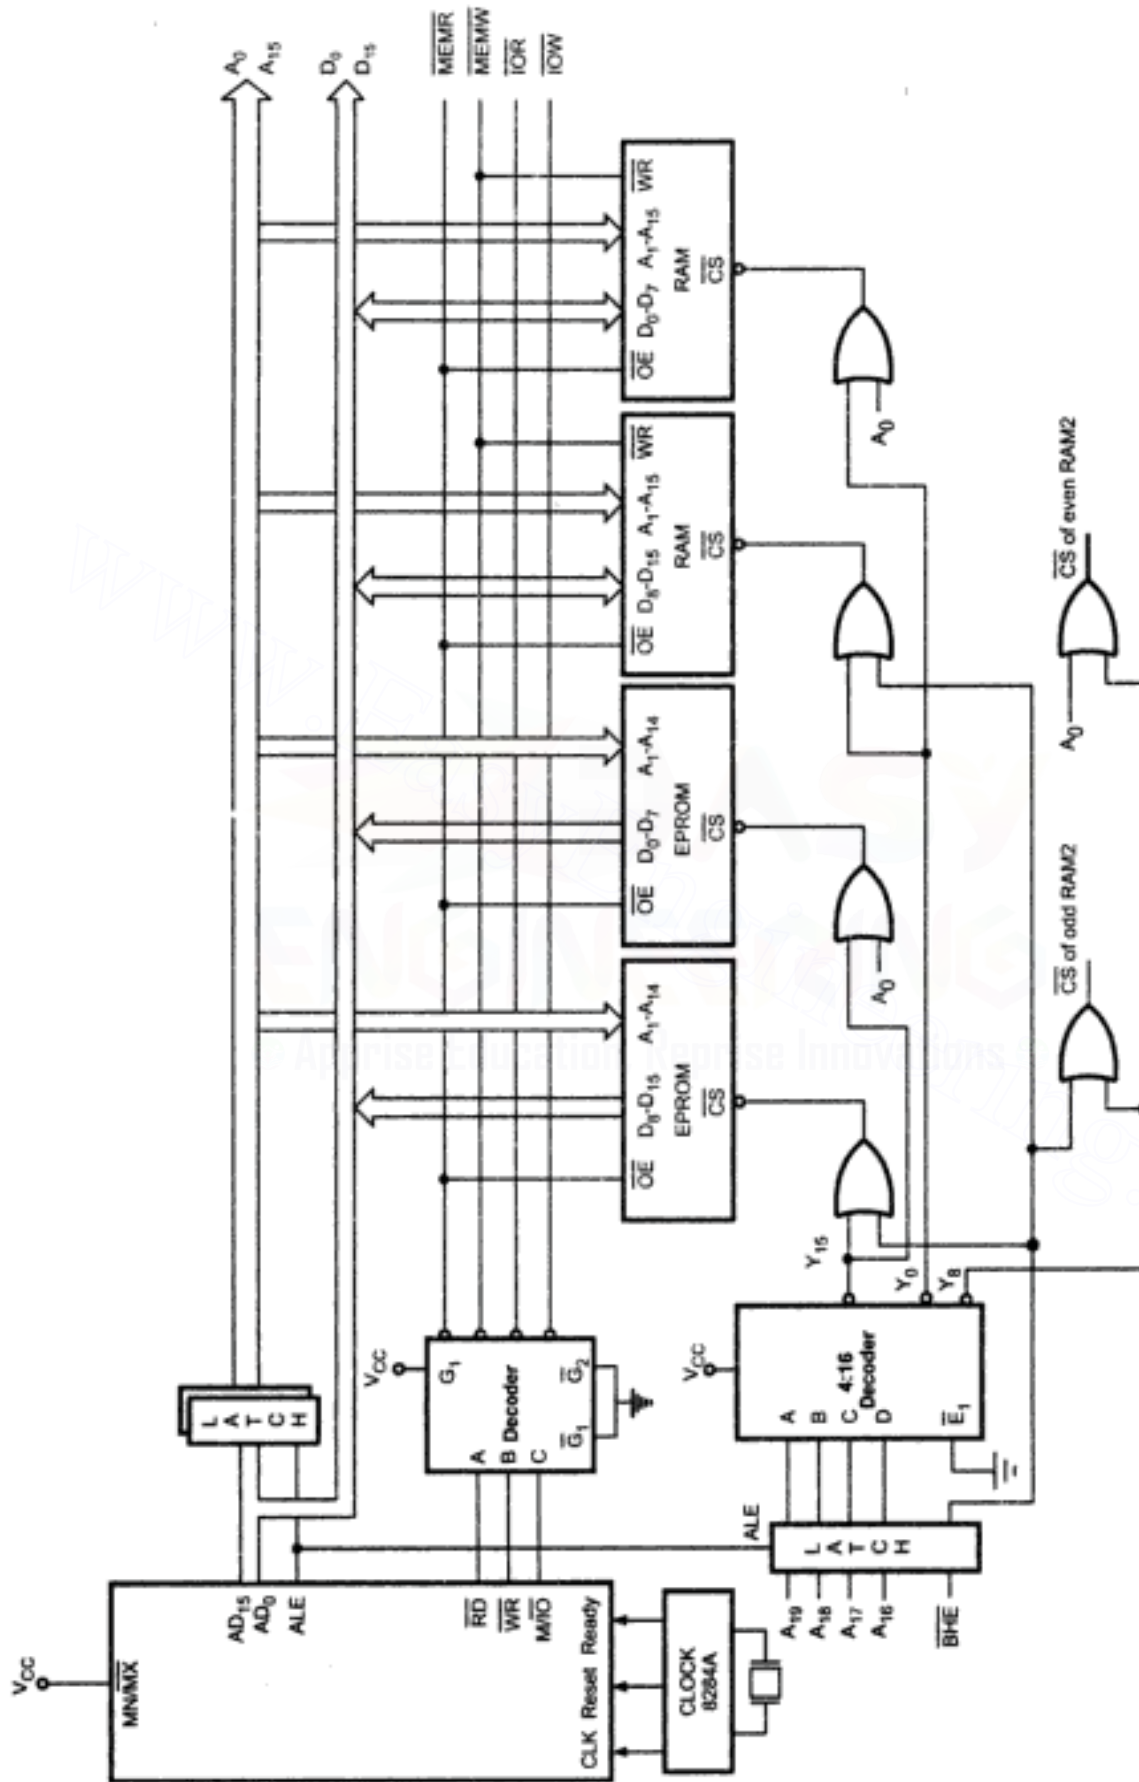

Fig. 5
**Ans. :** Please refer Fig. 5 on next page.